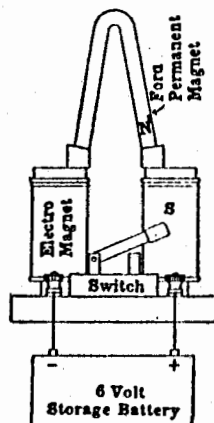
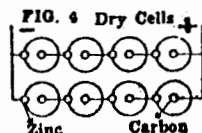

Fig. 94. Electromagnet using a storage battery for remagnetizing Ford magnets.
Fig. 95. Dry cells can be used instead of a storage battery, if connected as shown.
**Remagnetizing by electromagnet and battery:**1 It is not necessary to remove the flywheel from the engine when remagnetizing Ford magneto magnets with the device shown in Fig. 94. Simply remove the transmission-case cover so that the ends of the magnets are available. Use a compass to determine the N pole of each magnet, and chalk them; also chalk the S pole of the remagnetizer. Place the S pole of the remagnetizer so that it will be on the N pole of the magnets.
The connections are shown in Fig. 94. The storage battery can be either a 6 or 12-volt battery. It is possible to use 6 or 8 dry cells, if connected as in Fig. 95.